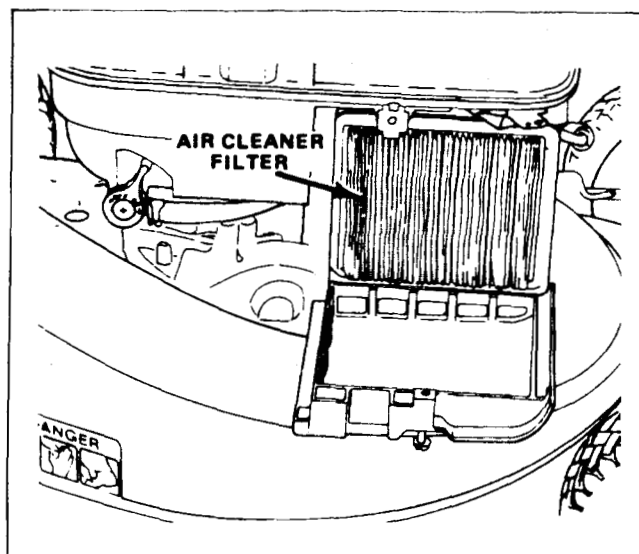

Figure 8
3. Remove the paper air filter and discard. See Figure 8.